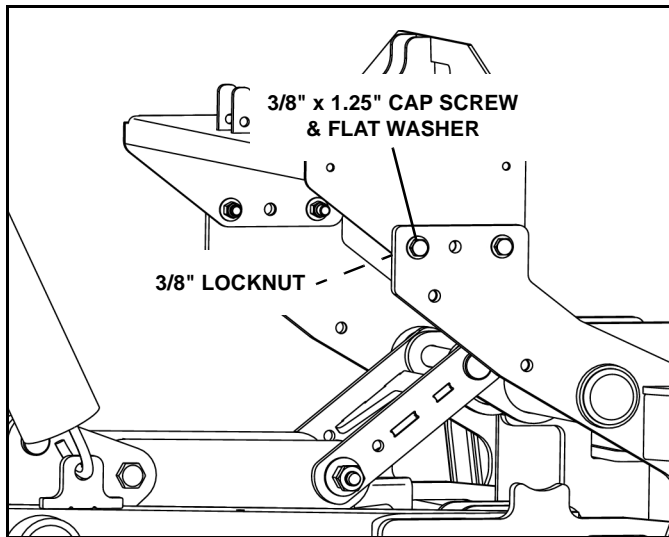

Figure 1-14
20. Remove one 3/8" x 1.25" cap screw, flat washer and locknut on the front driver side (DS) of the lower light lift bar (LLLB) and power unit platform. (See Figure 1-14).